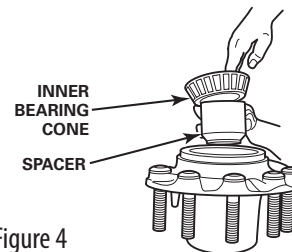

Figure 4
8. Remove the inner bearing cone and spacer from the hub assembly and discard (See Figure 4).